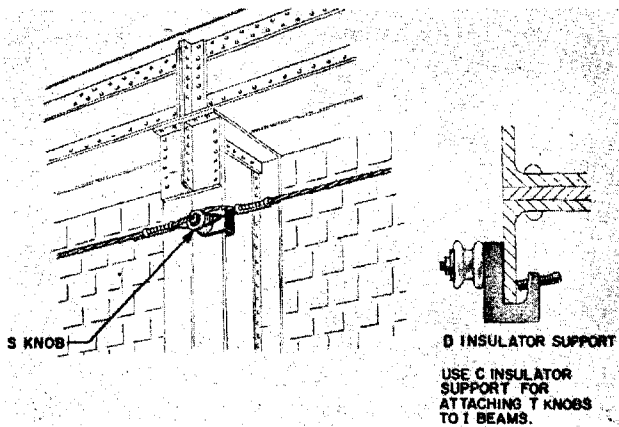

Fig. 11 - D Insulator Support and S Knob
- D insulator support (Fig. 11) will accommodate S knobs or B or M bridle rings. It can be attached to steel structures up to $\frac{3}{4}$ inch in thickness.